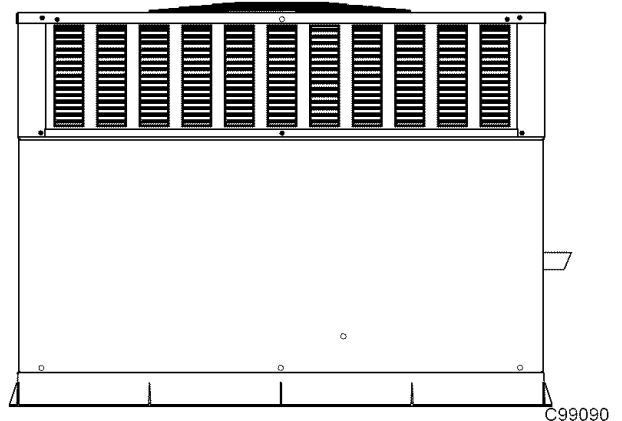

Fig. 29—Unit Access Panel
1. Remove unit access panel (See Fig. 29).
3. Remove unit access panel (See Fig. 29).